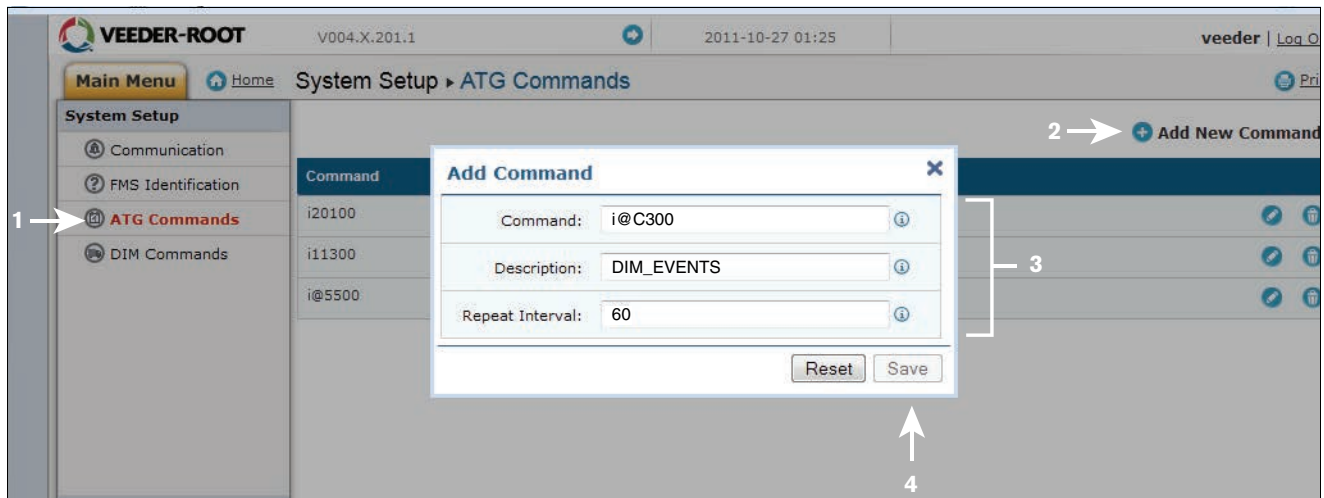

Figure B-6. Entering ATG Command
9. Go to the “DLSetup” application by clicking on white arrow in blue circle top center of screen (see Figure B-6), and under “System Setup”, click on “ATG Commands (1 in Figure B-6)”. Then click on the “+ Add New Command” text at top right of screen (2 in figure). When the Add Command dialog box appears enter the command “i@C300”, add the Description “DIM_EVENTS”, set the Repeat Interval to “60” (3 in figure) and click Save (4 in figure).